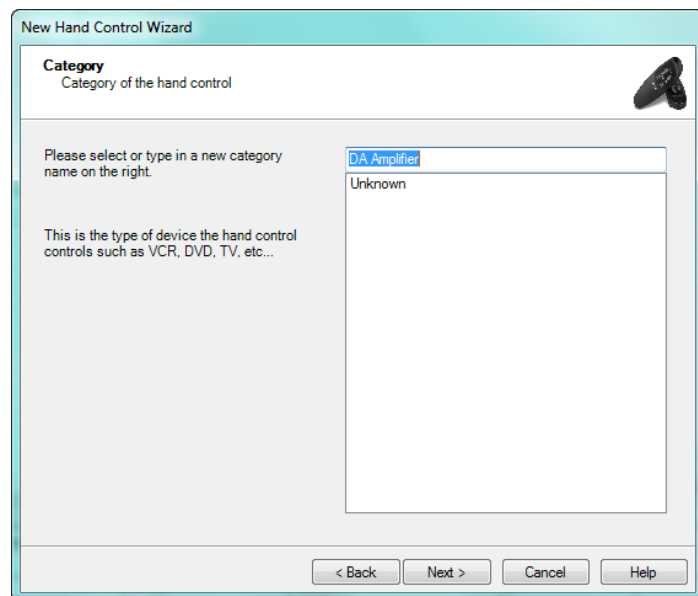

FIG. 15 New Hand Control Wizard - Category dialog
3. Click **Next** to proceed to the *Category* dialog (FIG. 15):